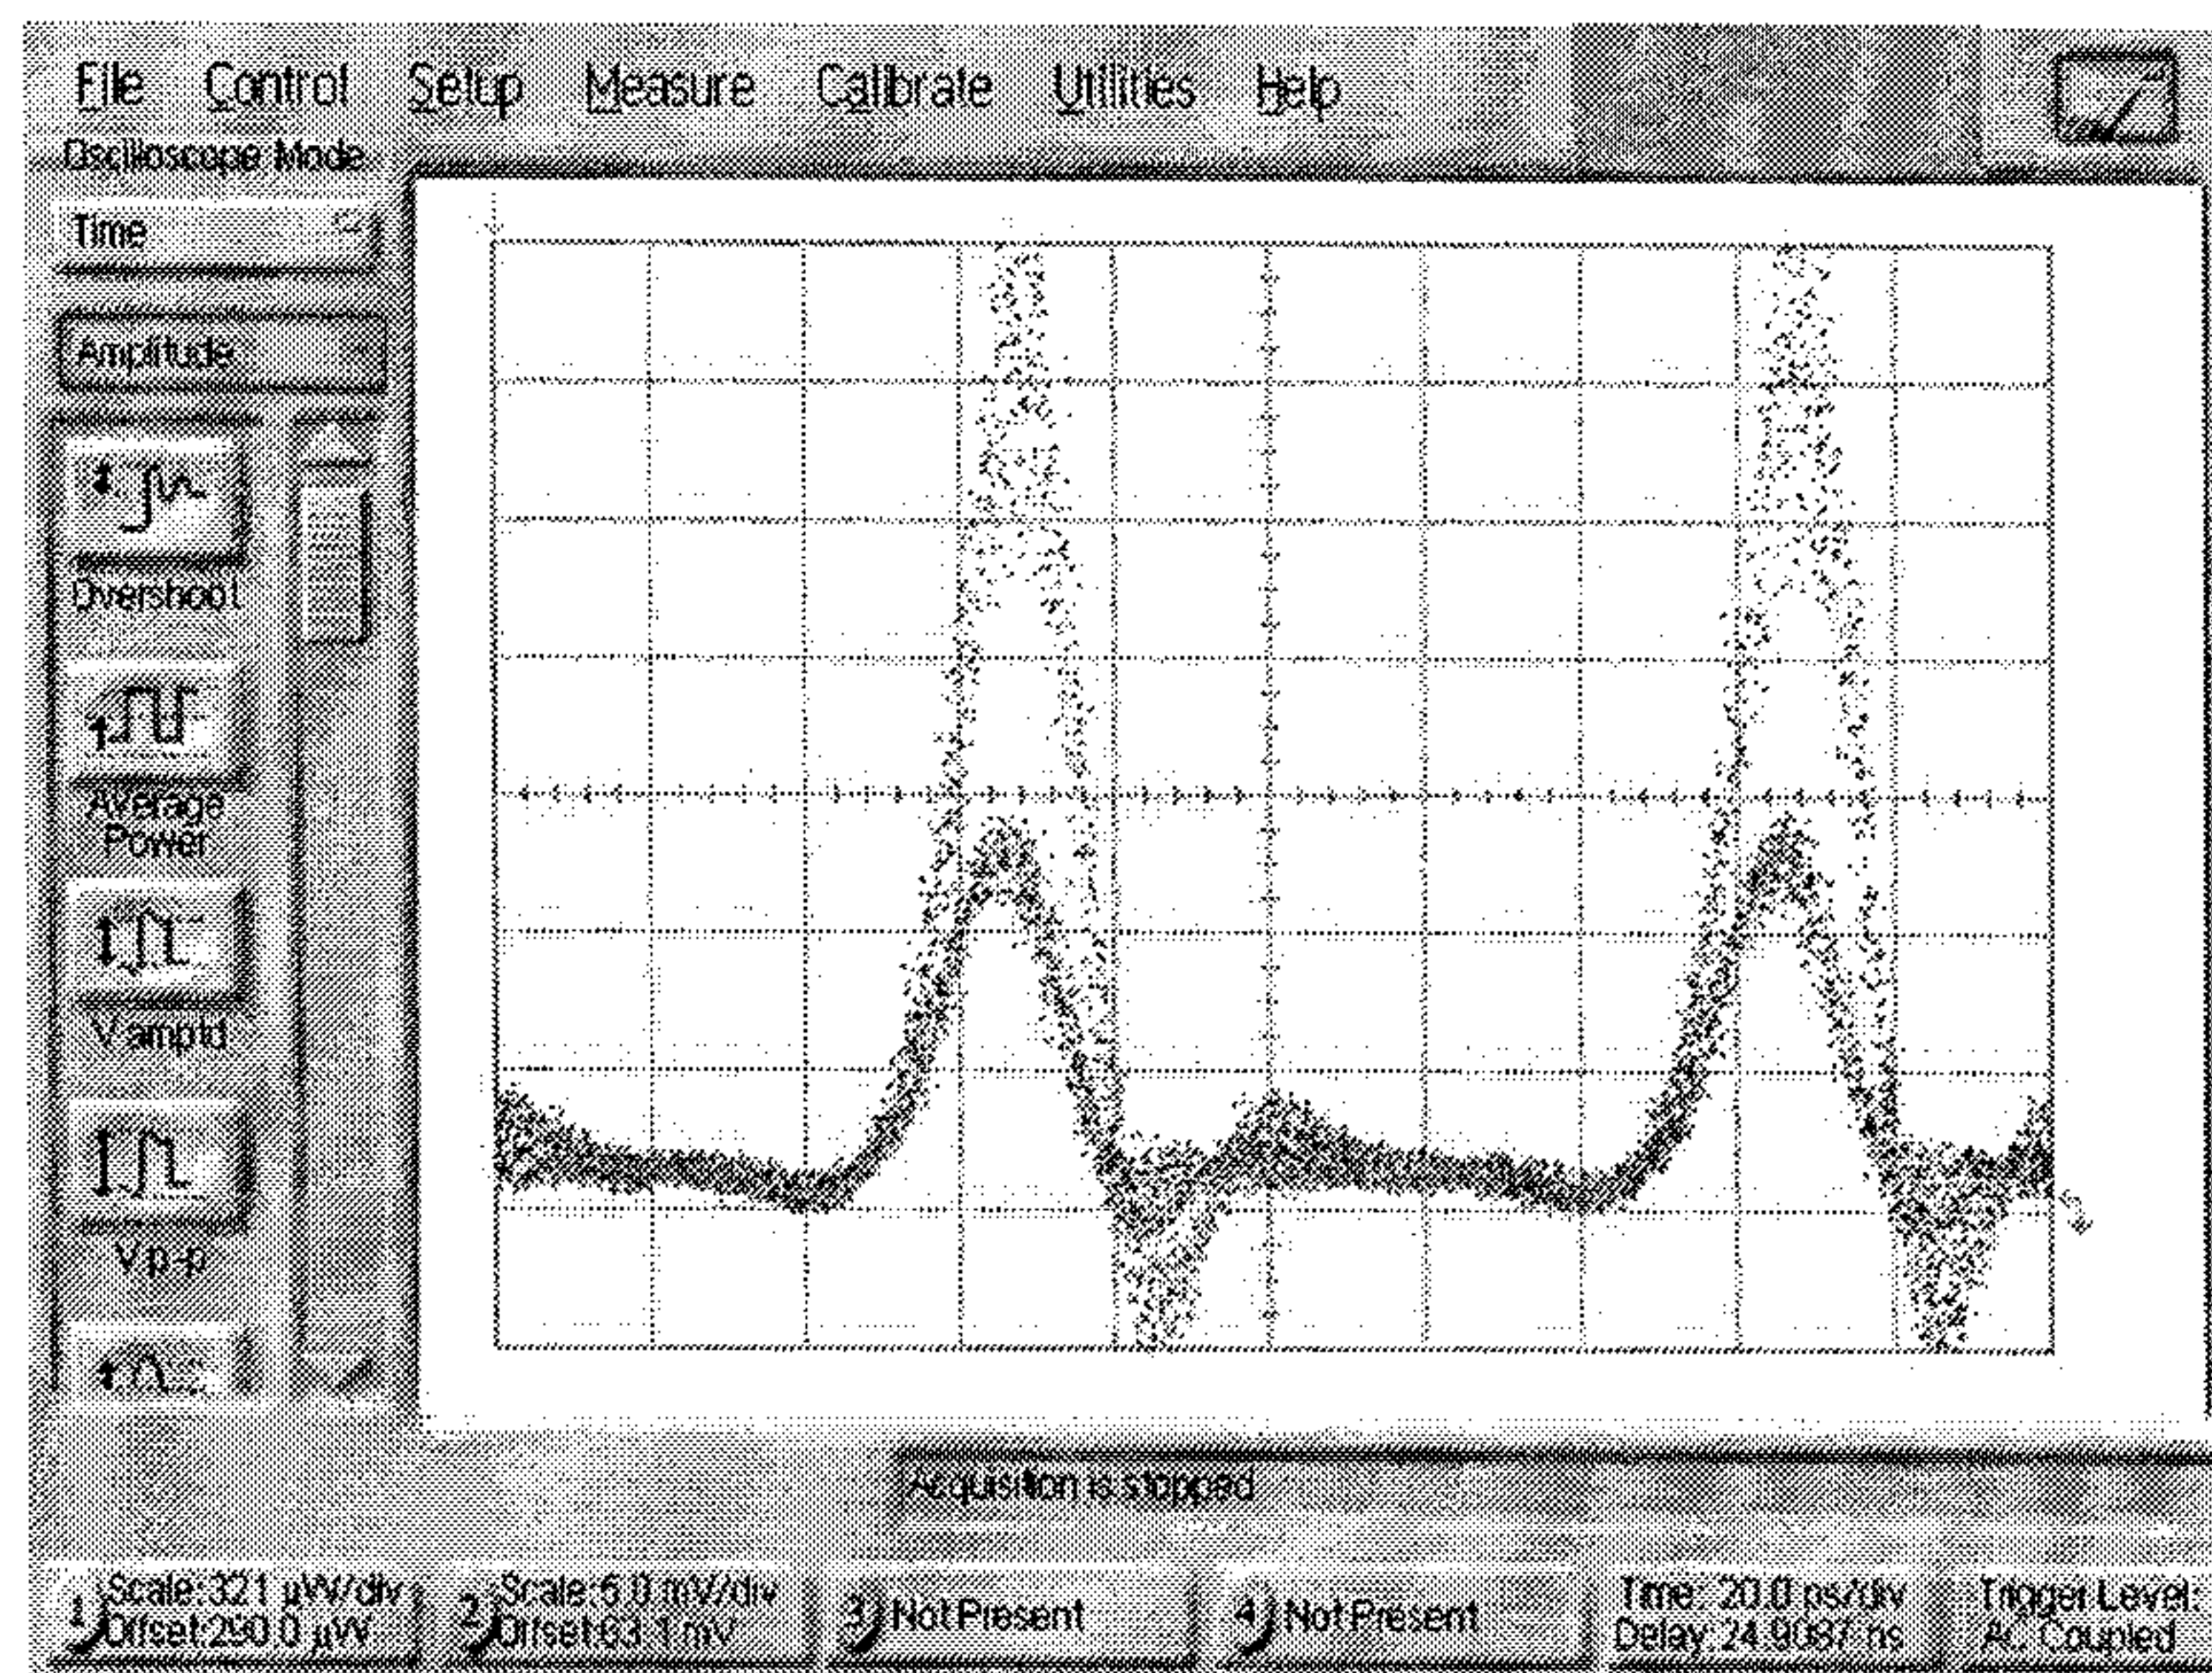
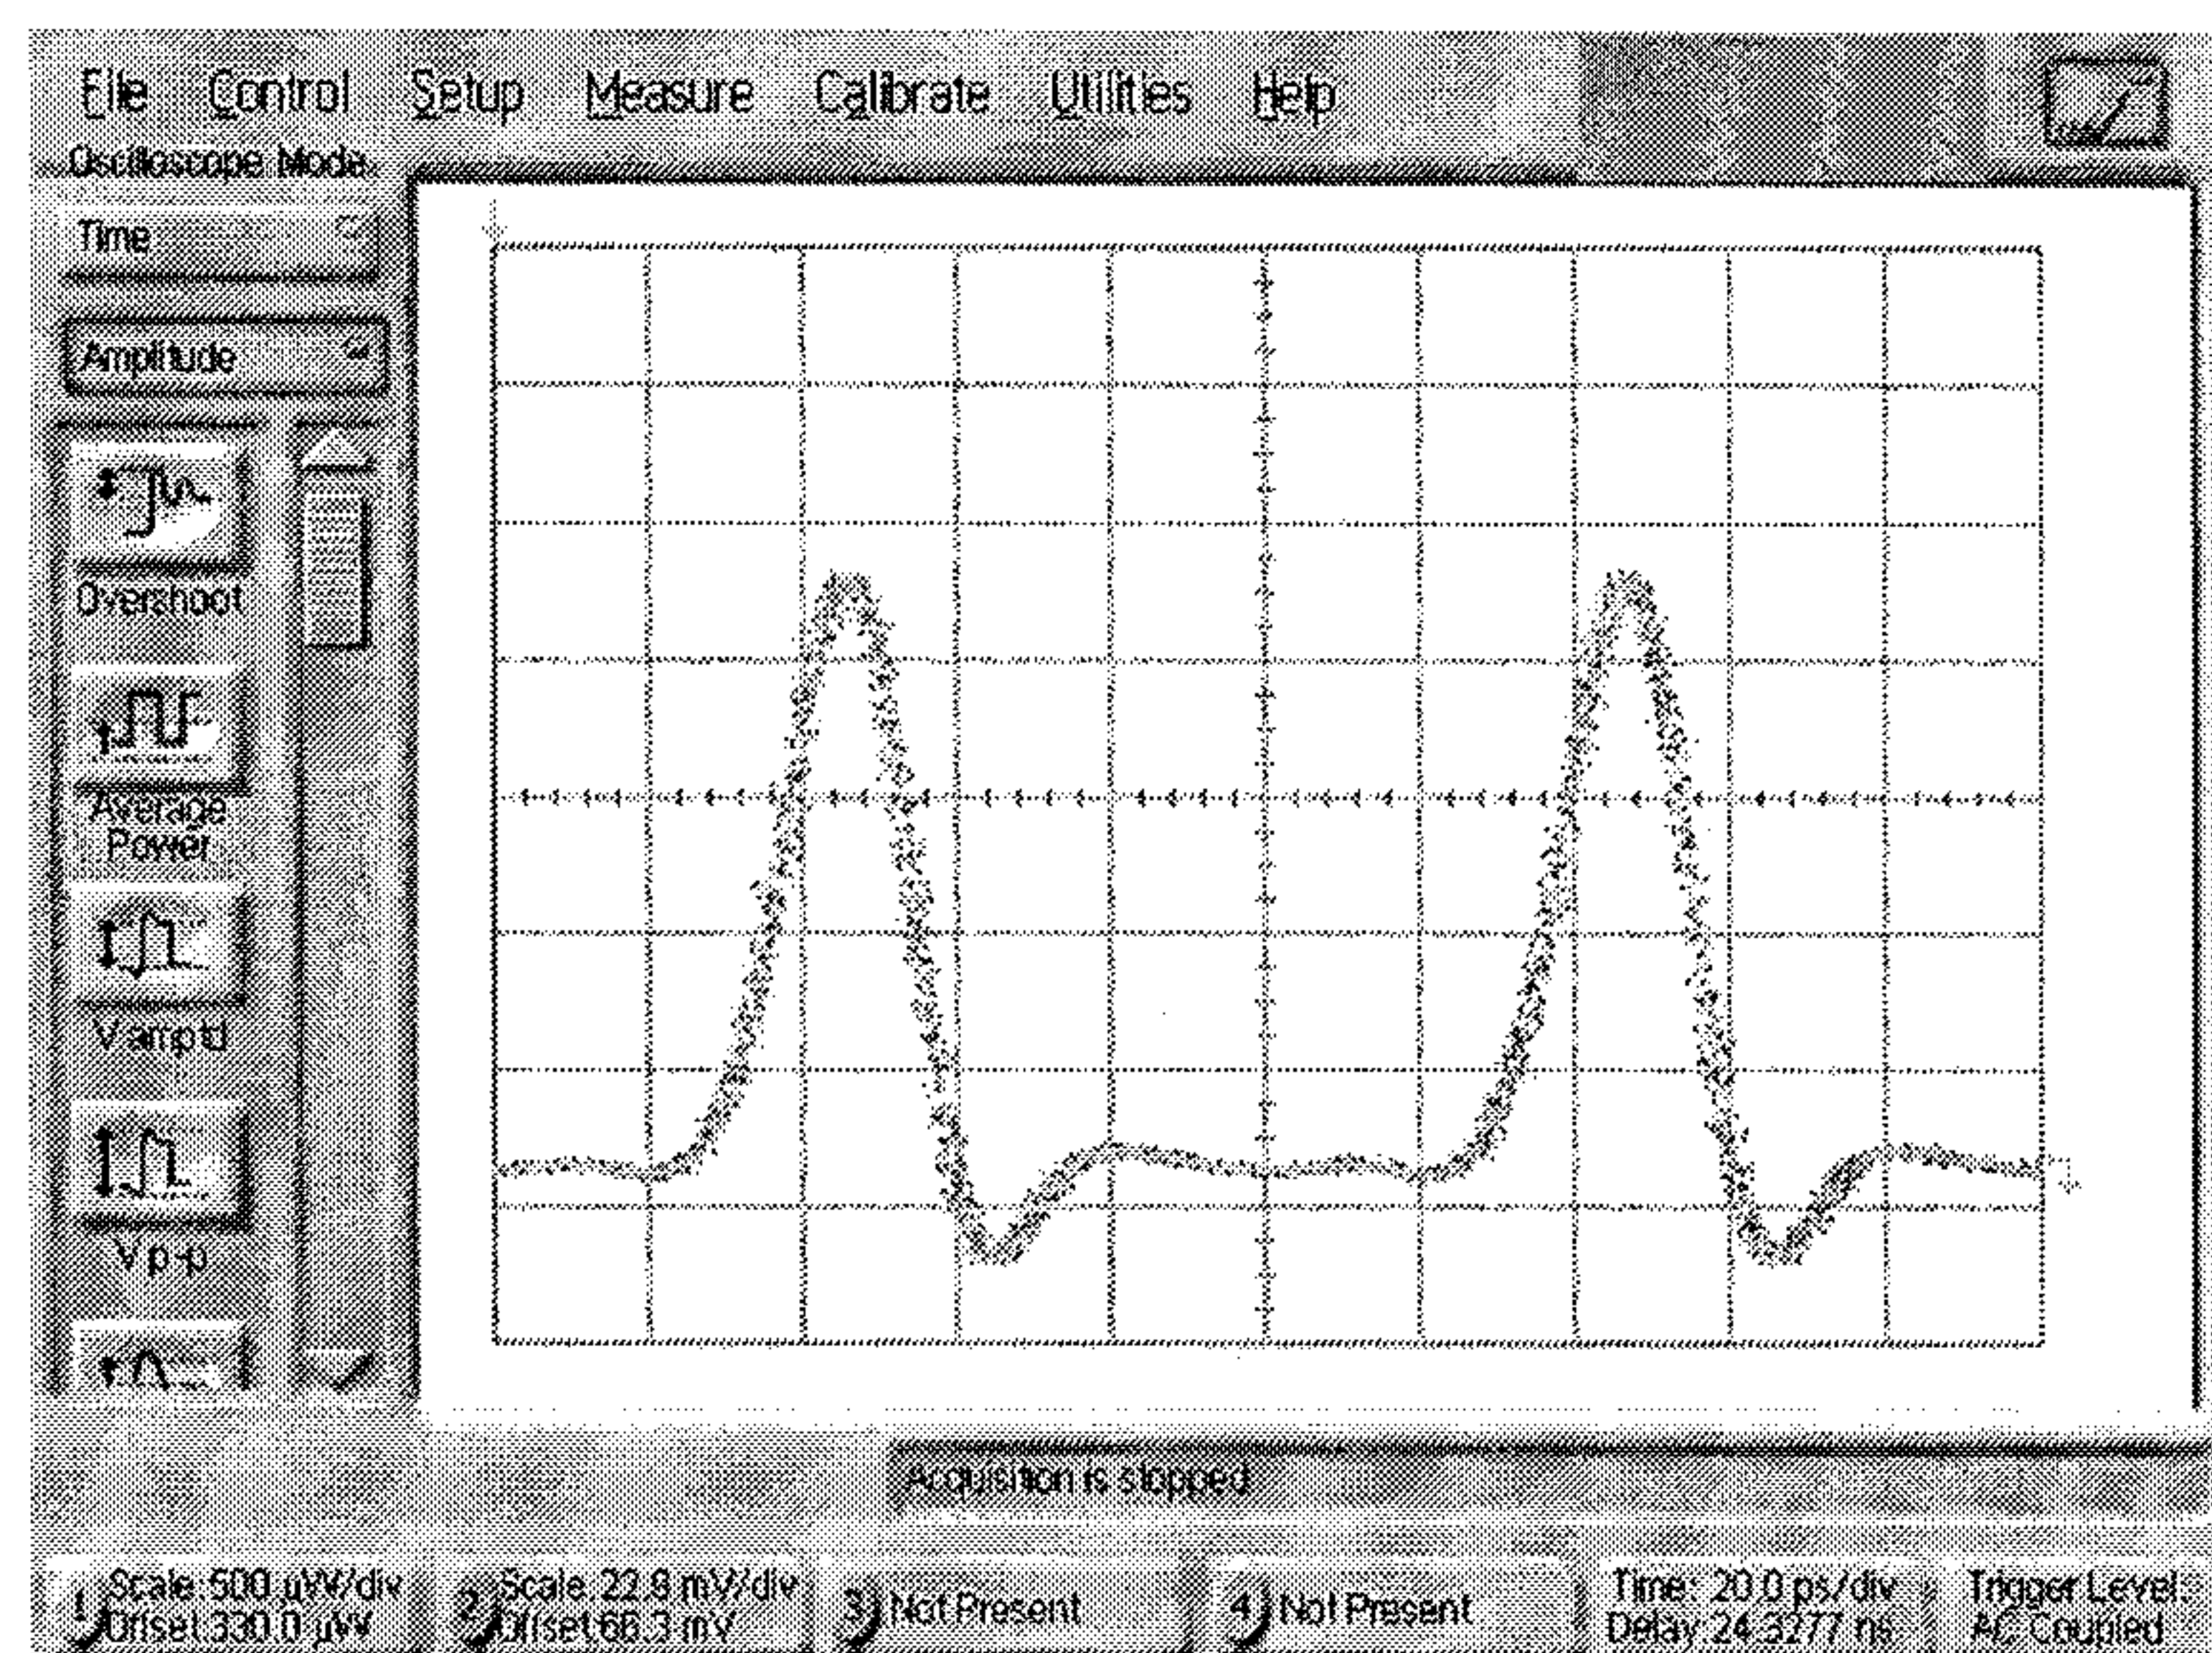

Figure 5 Pulse traces on a DCA scope show the laser is closed to mode-lock condition
Figure 6 Stable pulse traces on a DCA scope
- 3) After setting the frequency of the **RF SOURCE** to f_T , fine-tune the frequency around the initial f_T to find the clear 10 G pulse train display on **DCA**. A typical trace is shown on Figure 5. It is normal at this moment that the trace on **DCA** is only clear for a short period of time and then drifts away.
Note: If the laser temperature and RF drive frequency are not matched, one cannot find a stable trace. Note: Figure 5 and Figure 6 used a limited bandwidth (~30GHz) system to characterize the output of the 10 GHz laser. The shape in figure 5 and 6 are distorted due to the bandwidth limitation.
(Figure 5) the **RF SOURCE** frequency is close to a stable mode-locked frequency point. The phase lock switch is off; (Figure 6) the laser is phase-locked to the **RF SOURCE** with phase and bias optimized.